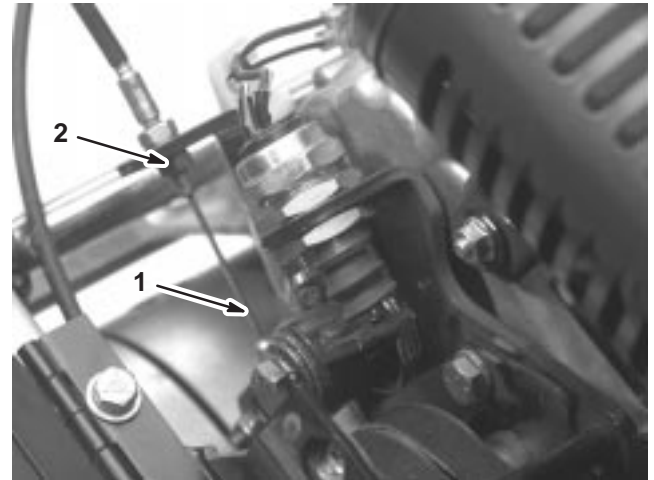

Figure 42
3. To increase the cable tension, loosen the front cable jam nut and tighten the back cable jam nut (Fig. 42) until a force of 3 to 5 lb. is required to engage the traction control. Measure the force at the control knob.